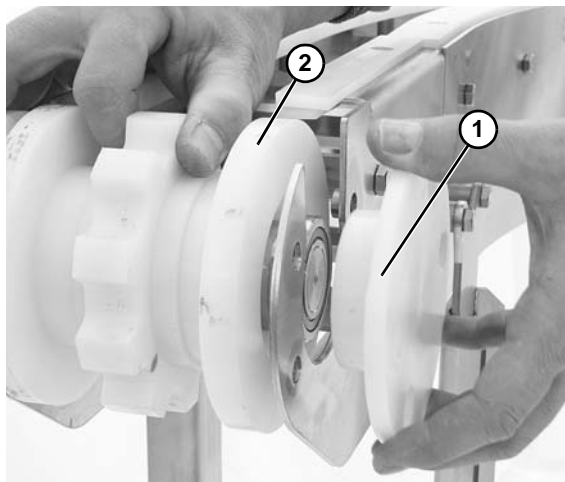

Figure 45
6. Remove bearing housing (Figure 45, item 1) and lift spindle shaft assembly from tail.